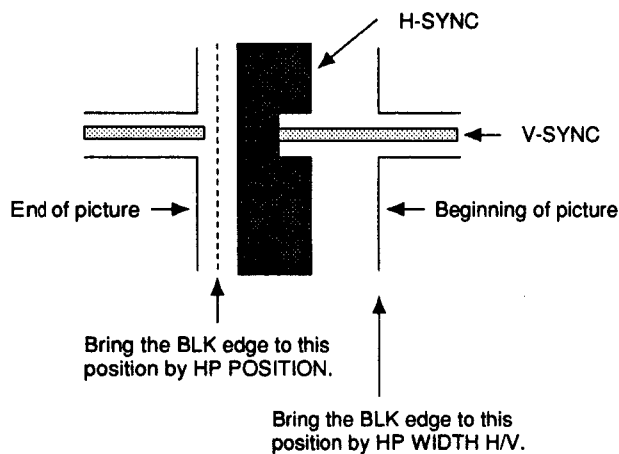

Fig. 5-30
- 4) Adjust **HP POSITION** as shown in Fig.5-30.
- 4) Adjust **HP WIDTH H/V-DELAY** as shown in Fig.5-30. (Note: Check HP POSITION. If it is not in position, repeat 2) and 3).)